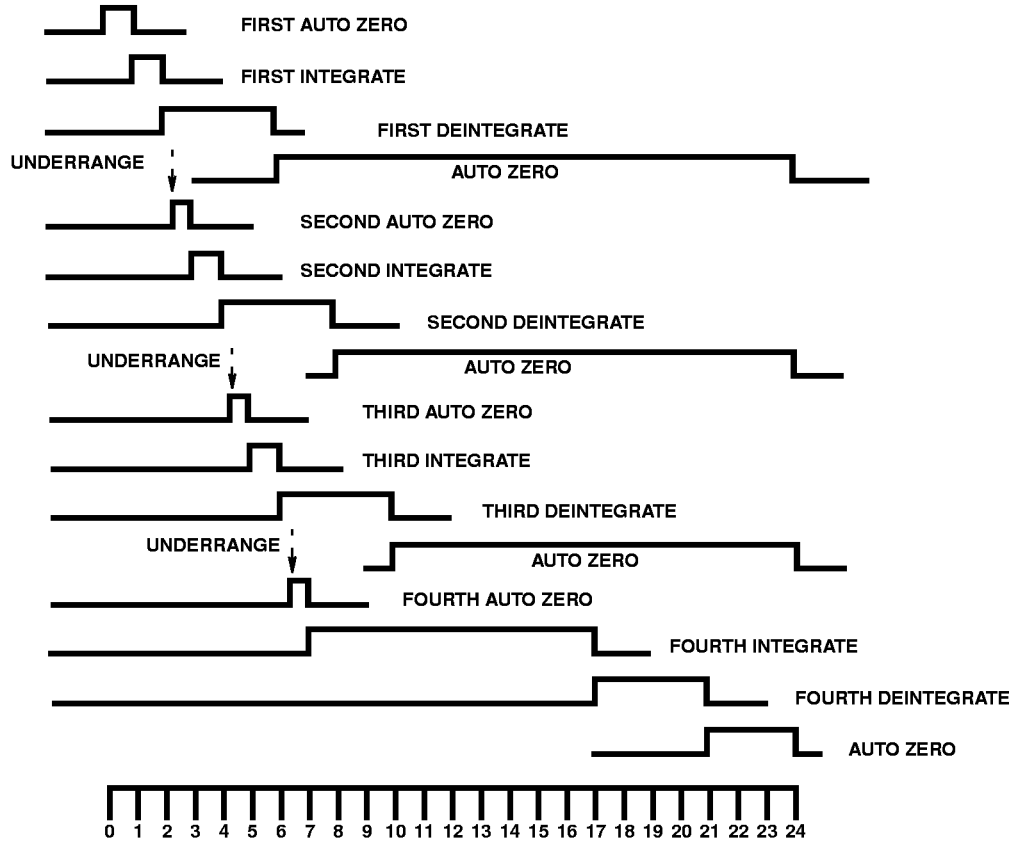
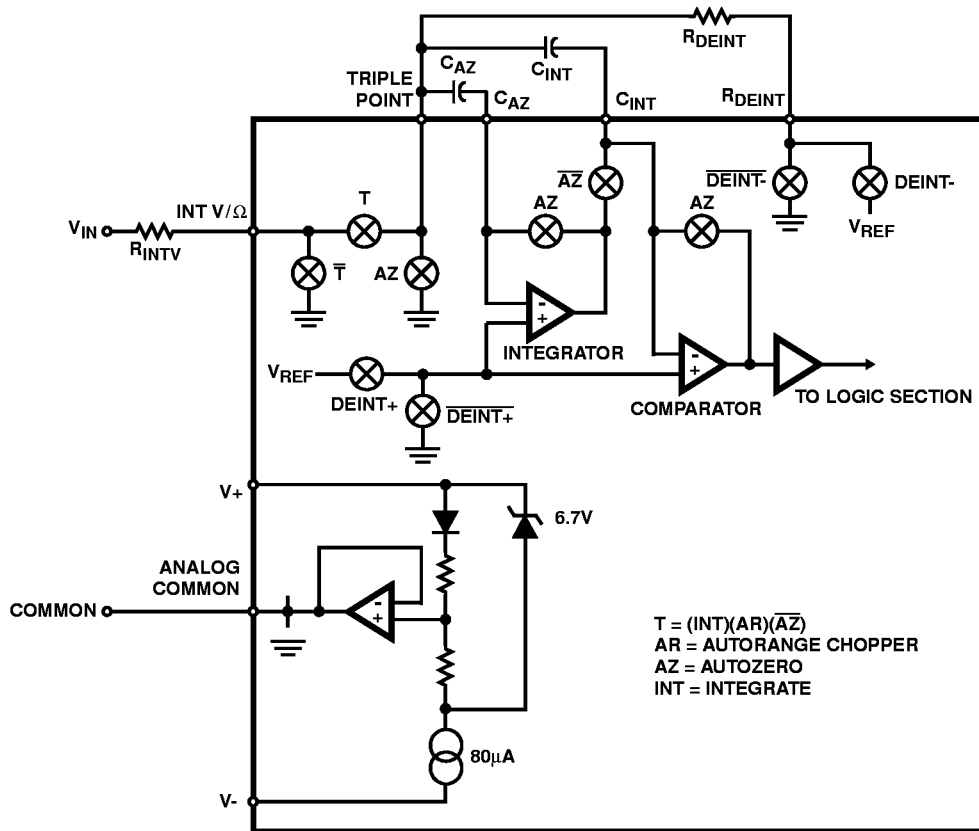

FIGURE 1. LINE FREQUENCY CYCLES (1 CYCLE = 1000 INTERNAL CLOCK PULSES = 2000 OSCILLATION CYCLES)
FIGURE 3. DETAILED CIRCUIT DIAGRAM FOR DC VOLTAGE MEASUREMENT
Electrical Specifications V+ = 9V, T_A = 25°C, V_{REF} adjusted for -3.700 reading on DC volts, test circuit as shown in Figure 3. Crystal = 120kHz. (See Figure 14)
Only those portions of the analog section which are used during DC voltage measurements are shown in Figure 3. As shown in the timing diagram (Figure 1), each measurement starts with an autozero (AZ) phase. During this phase, the integrator and comparator are configured as unity gain buffers and their non-inverting inputs are connected to Common. The output of the integrator, which is equal to its offset, is stored on C_{AZ} - the autozero capacitor. Similarly, the offset of the comparator is stored in C_{INT}. The autozero cycle equals 1000 clock cycles which is one 60Hz line cycle with a 120kHz oscillator, or one 50Hz line cycle with a 100kHz oscillator.